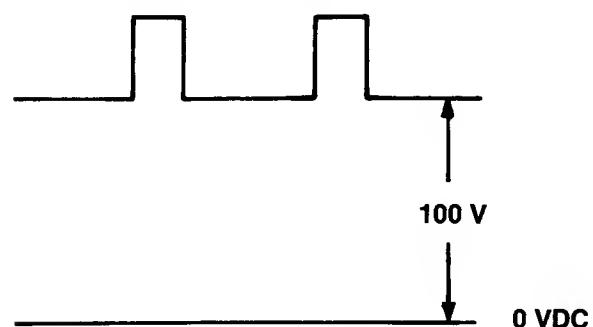

Figure 10
- 5.5 Adjust the black level control (VR201) of the lead color gun to obtain the waveform shown in Figure 10.